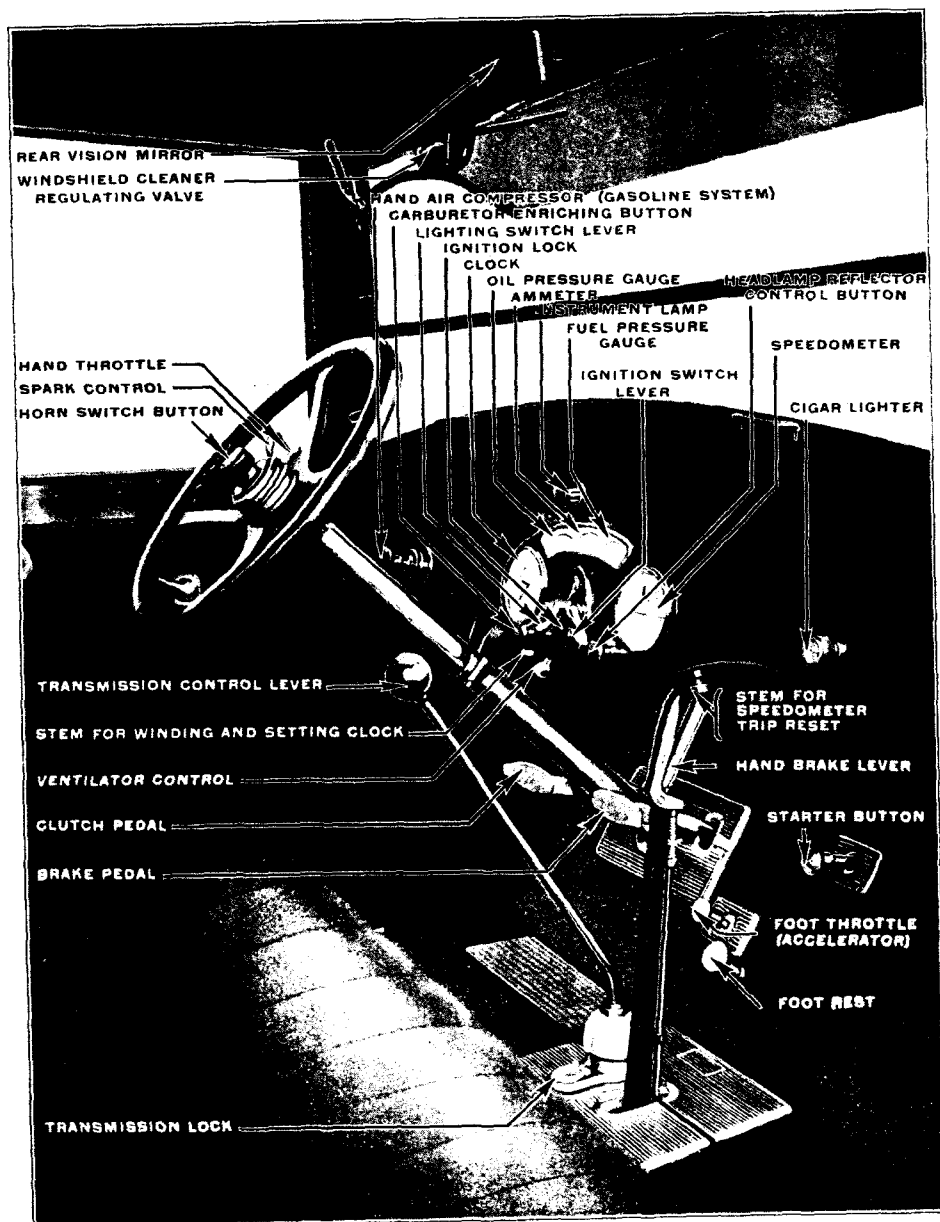

Fig. 1. Instruments, Control Levers and Pedals.
1. First make certain that the transmission control lever is in the neutral position and that the hand brake is applied, (see Figure 1.)
Lubricating oil is fed under pressure to the main and connecting rod bearings of the engine (see under “Engine Lubrication,” page 32.) The pressure of the oil is indicated by the pressure gauge on the instrument board. (See Fig. 1.)
Caution: Do not attempt to shift from neutral to any gear, or from one gear to any other without first disengaging the main engine clutch by pushing and holding down the clutch pedal (see Figure 1.)